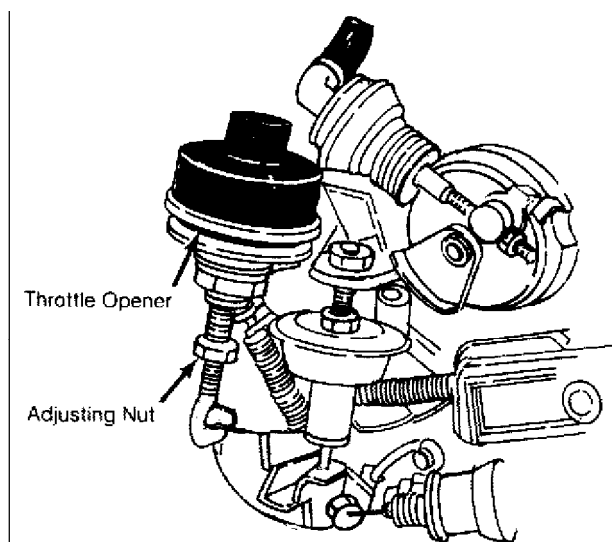

Fig. 10: Throttle Opener Adjustment (A/C Models Only)
- 4) Throttle opener should operate and engine speed should increase to 1150-1250 RPM in Neutral. If engine speed is not to specification, turn adjusting screw. See Fig. 10.